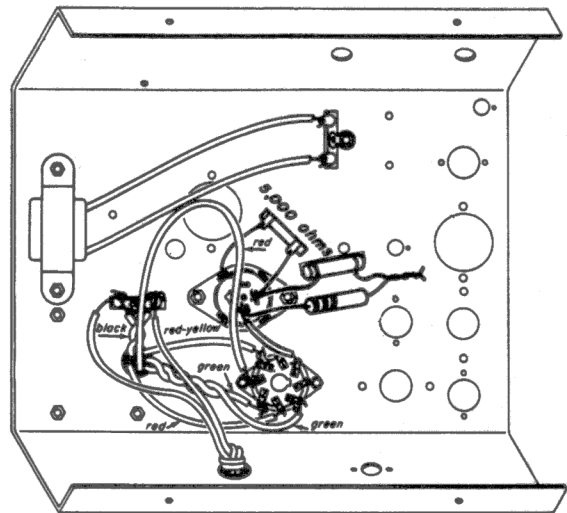

Fig. 18-9
Step 23. Unsolder one end of the 1,000-ohm filter resistor and solder in its place one end of the second 1,000-ohm resistor. Solder the free ends of these resistors together, as shown in Fig. 18-9. If this is wired properly, you now have 2,000 ohms of resistance in the RC filter, which feeds into a 5,000-ohm load.